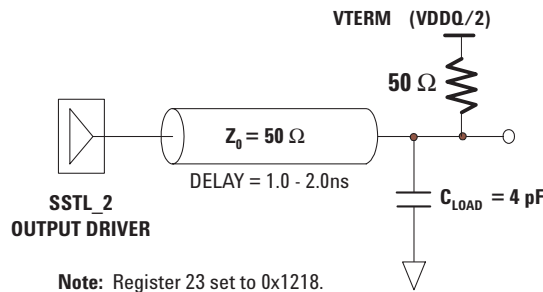

Figure 12. SSTL_2 Output Test Conditions.
1. Tested under load conditions described in Figure 12, with $V_{IH} = V_{REF} + 0.18$ and $V_{IL} = V_{REF} - 0.18$.
2. See Figure 12 for measurement conditions.